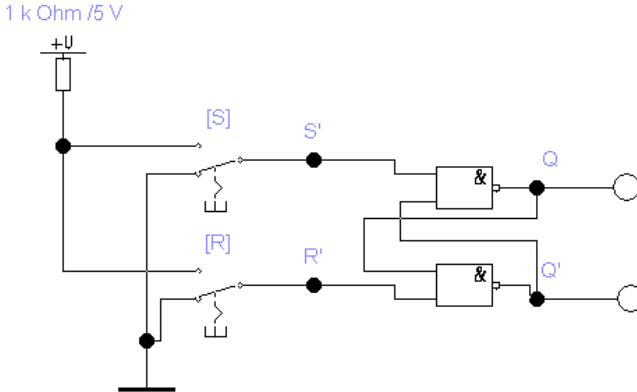

Figure 10.1 – Study scheme of RS-trigger
1. Draw a diagram depicted in fig. 10.1 (file 14_02 in the examples)